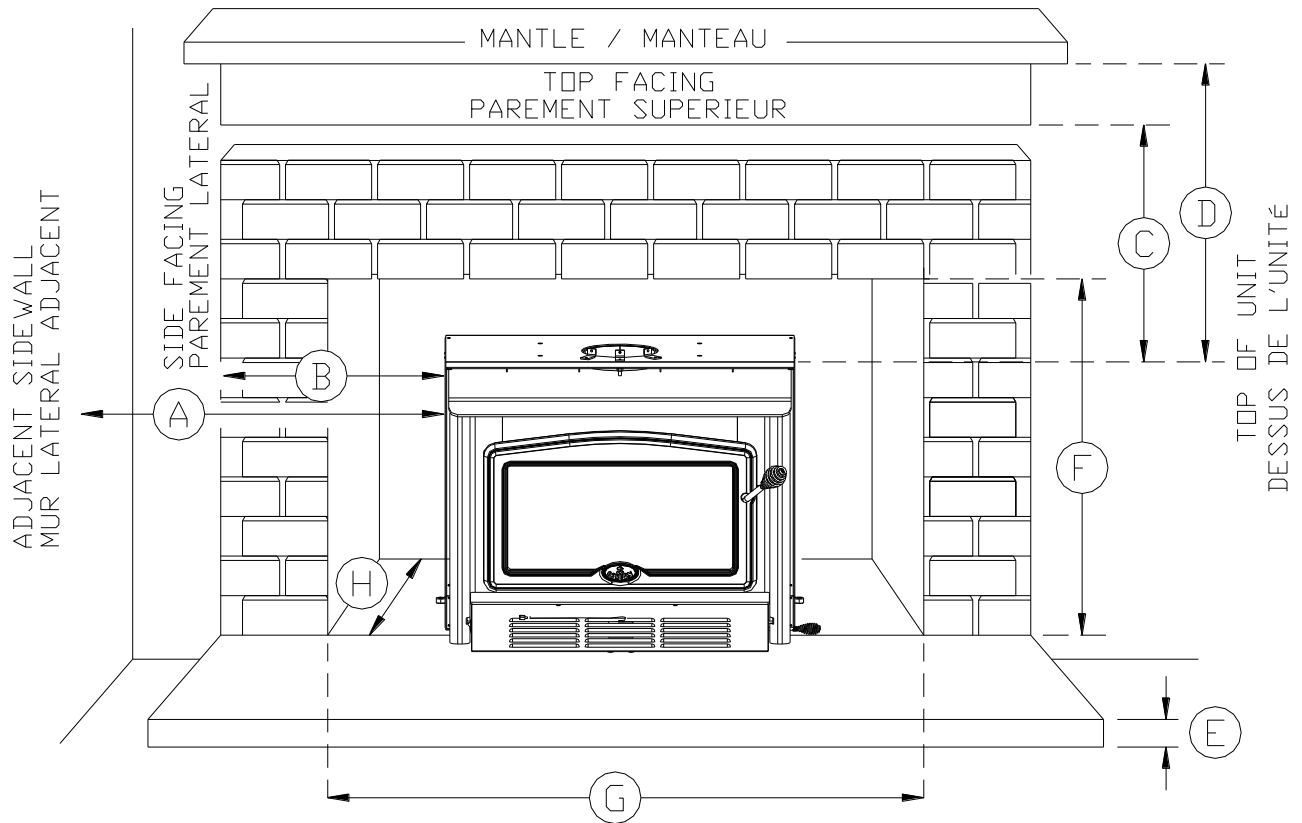

Figure 1
In order to complete the assembly of your Osburn 2400 wood insert, you need to install the door overlay. See figure 1 below for installation instructions :
2. Where lesser clearances are desired, consult your local authority as regulations may vary regarding the use of clearance reducing devices. Listed wall and floor shields are available to reduce clearances, and most building codes provide information on materials which may be used to reduce clearances (see Figure 1).